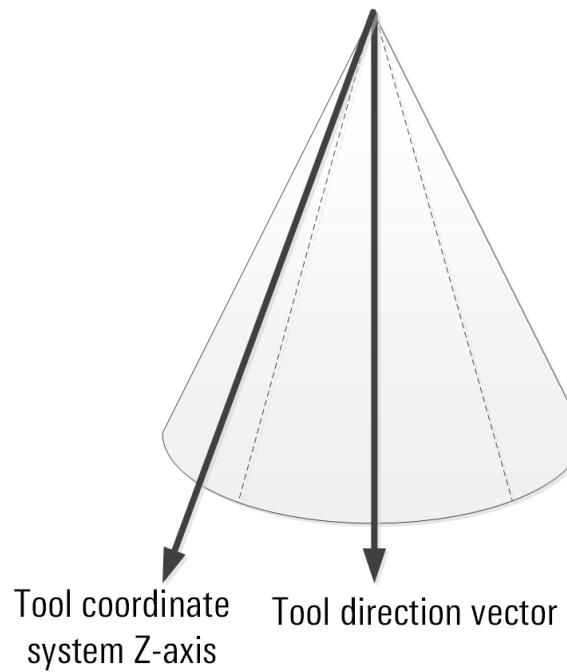

Figure 1-3 Working attitude region and critical attitude region
- Tool direction vector A free vector specified by the user, with a length of 1, in the direction usually pointed by the tool coordinate system Z axis when the robot is working. As shown in Figure 1-3.
- Work posture area The set of tool coordinate system postures where the angle between the tool coordinate system Z axis and the tool direction vector is less than a certain value. This value can be set by the user, ranging from 5° to 180°. As shown in Figure 1-3, the solid line cone.
- Conventional attitude area The sub region of the working attitude region is the union of the critical attitude region, and the intersection is the empty set. As shown in Figure 1-3, the dashed cone.